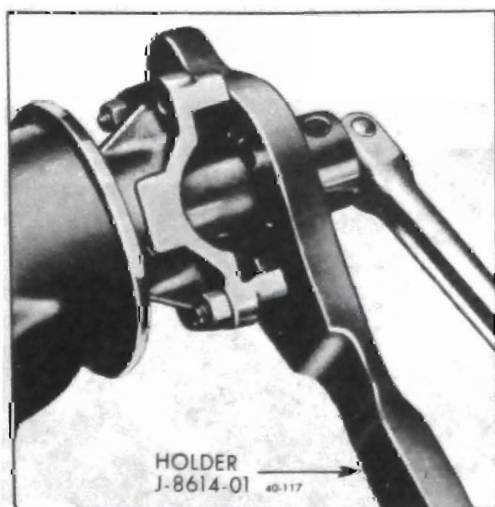

Figure 40-135 46-48000 Removing Pinion Nut
2. Install Holder J-8614-01 on pinion flange using two 5/16-18x2" bolts with flat washers. (On 49000, install Holder J-8614-01 on pinion flange using Adapters J-21619). Remove pinion nut and washer. See Figures 40-135 or 40-136.